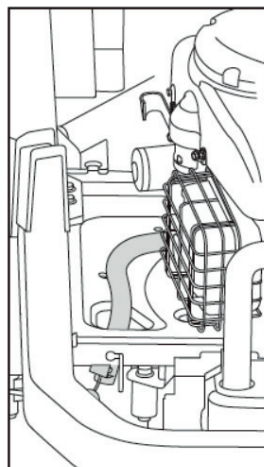

FIG.30B
6. TURN COUNTERCLOCKWISE AND PULL THE DRAIN PLUG OUT. (FIG.30B)